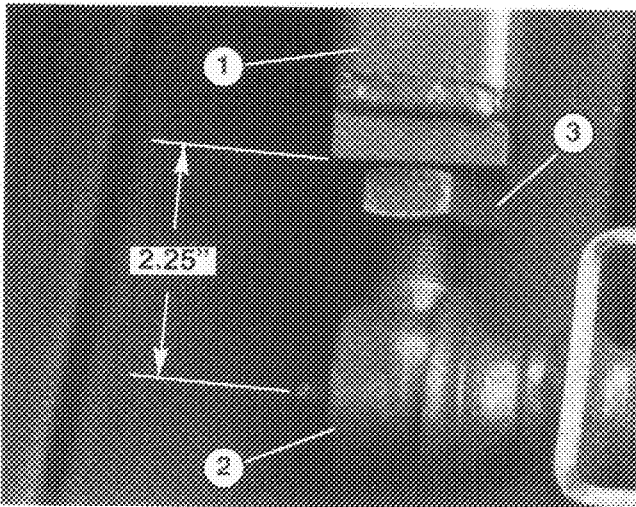

Figure 5
CONNECT LIFT ARMS TO CUTTING UNIT (Fig. 5–6)
5. Tighten large jam nut securing ball joint to lift arm (Fig. 5). When tightening jam nut, hold ball joint straight to permit proper oscillation during raising and lowering of cutting unit.